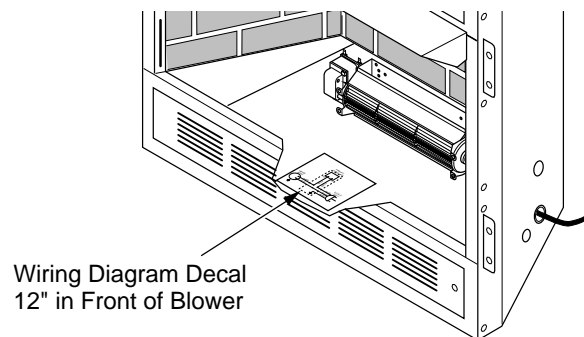

Figure 27 - Location of Wiring Diagram Decal (Model May Vary From Illustration)
10. Peel off the backing paper and stick the supplied wiring diagram decal on the firebox bottom approximately 12" in front of the blower (see Figure 27).
11. Peel off the backing paper and stick the supplied wiring diagram decal on the firebox bottom approximately 12" in front of the blower (see Figure 27, page 17).